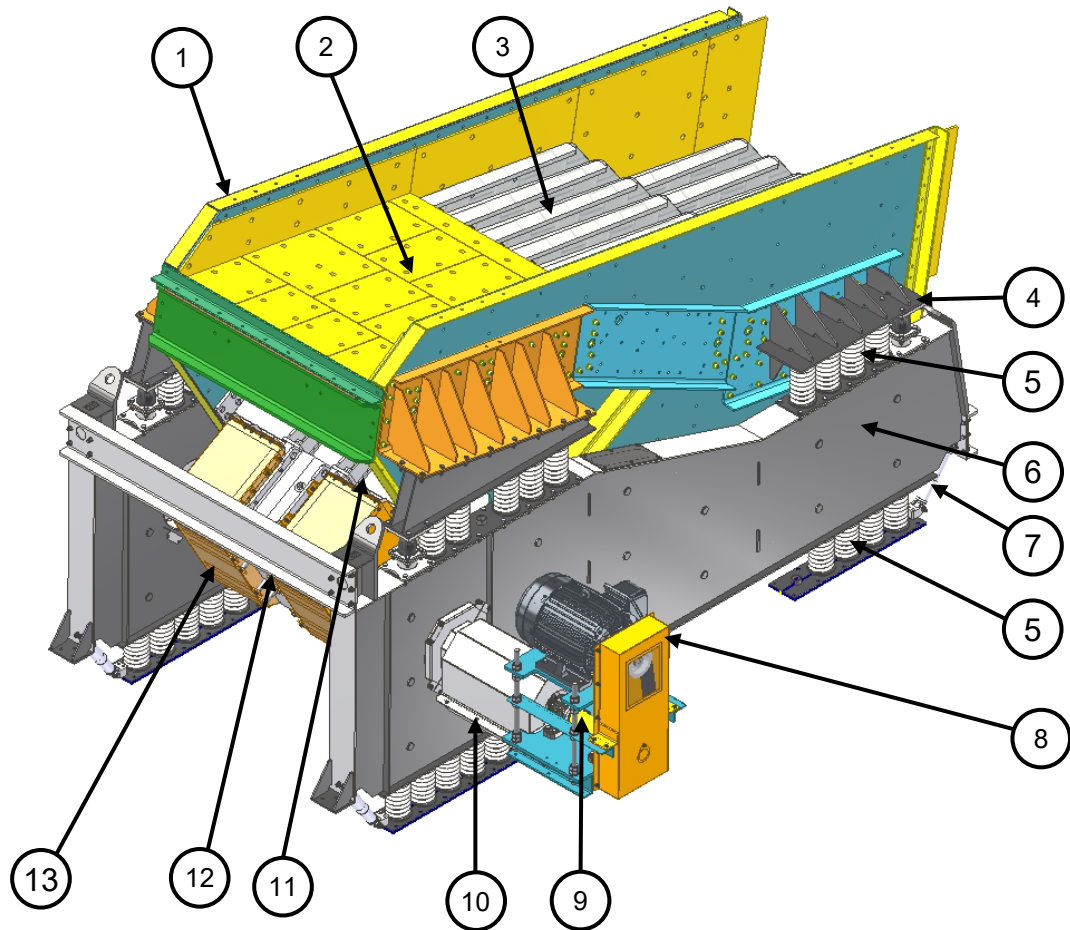

Figure 2.5-1: Main features of a grizzly
- Grizzly feeder pictured in Figure 2.5-1